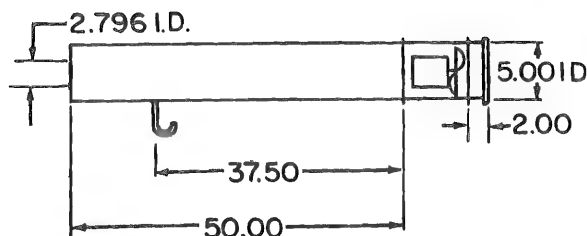

Figure 10-8. Test Diagram
c. Operate blower motor at 27 vdc using a 5-inch I. D. duct restricted to 2.796-inch I. D. outlet. (See figure 10-8.)